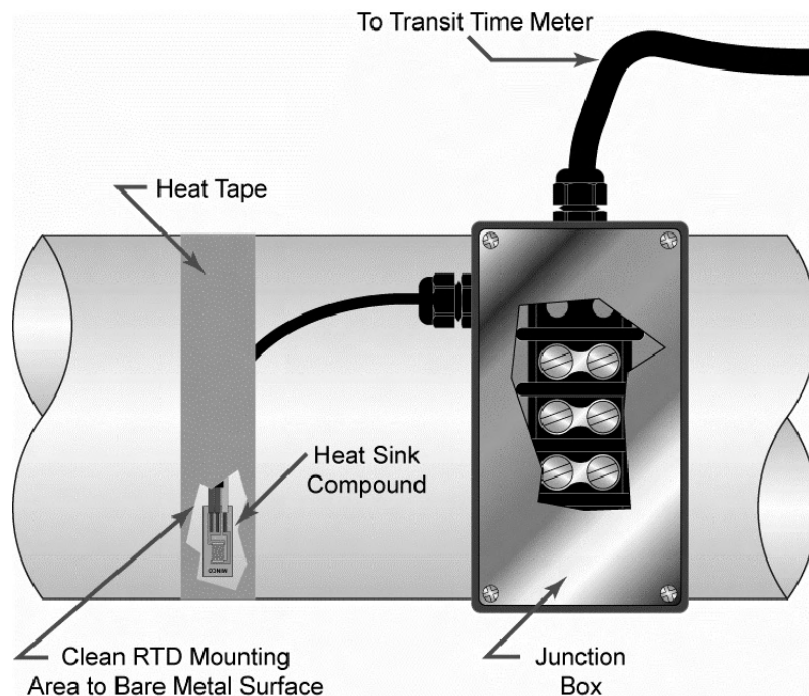

Figure 2.11
3. Place a small amount of heat sink compound on the pipe in the RTD installation location. See **Figure 2.11**.